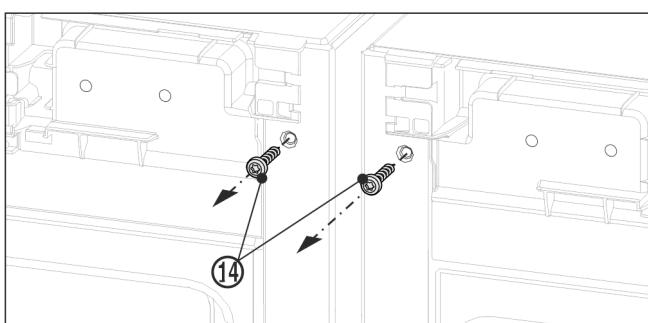

Fig. 11
► Before fitting the top bracket remove both earthing screws Fig. 11 (14).